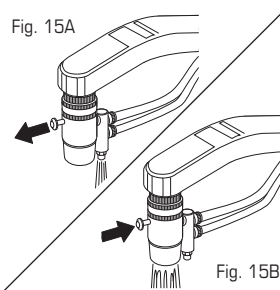

Fig. 15B
- Pin **pushed in** - Untreated water (Fig. 15B).